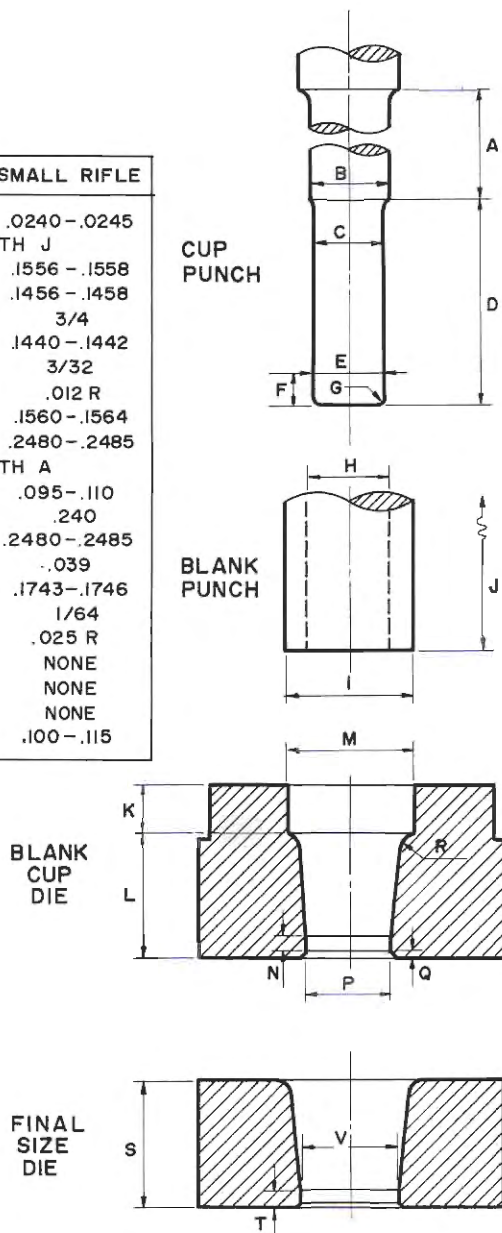

Figure 43: Essential Tooling and Dimensions for Rifle Primers
Figures 43 and 44 show the essential tool dimensions for a large rifle primer, using strip .0265" – .0270" thick, and a small pistol primer using strip .0173" – .0178" thick.
* These differ from the dimensions shown in Figures 43 & 45, where thicker metal (.024") is used for the cup. The smaller inside diameter lessens side wall ironing, resulting in more uniform cup height.